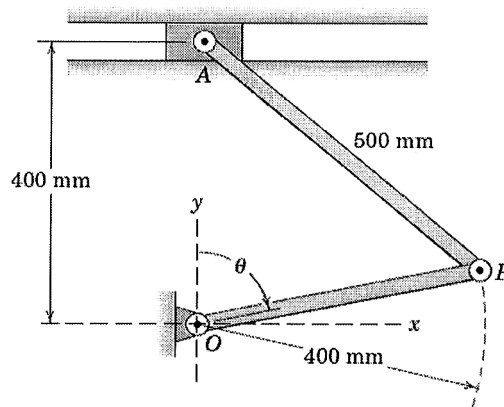

Fig. 4b
(c) Using vector notation, determine the angular acceleration of link AB and the linear acceleration of A for $\theta=90^\circ$ if $\dot{\theta} = 0$ and $\ddot{\theta} = 3\text{rad/s}^2$ at this position (**Fig. 4b**). (10)